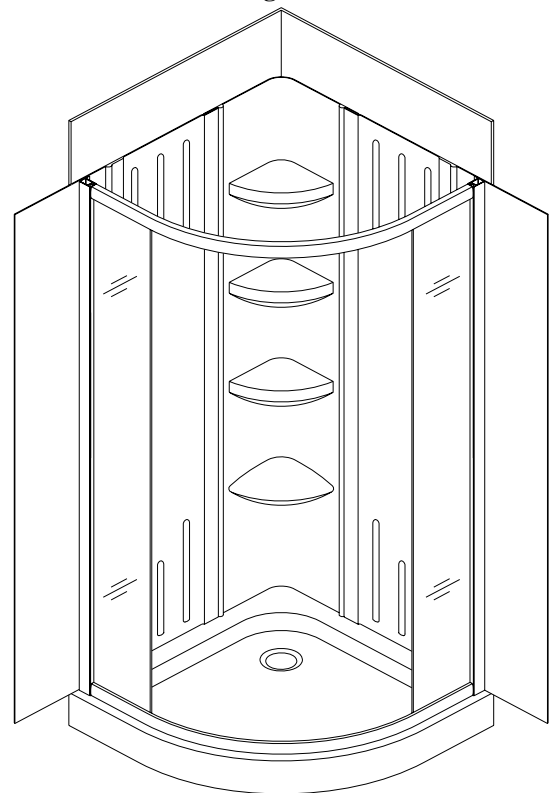

Fig 10
9. Without permanently installing the front enclosure, mark the outer edges of the vertical profiles (Fig 10 & 11).